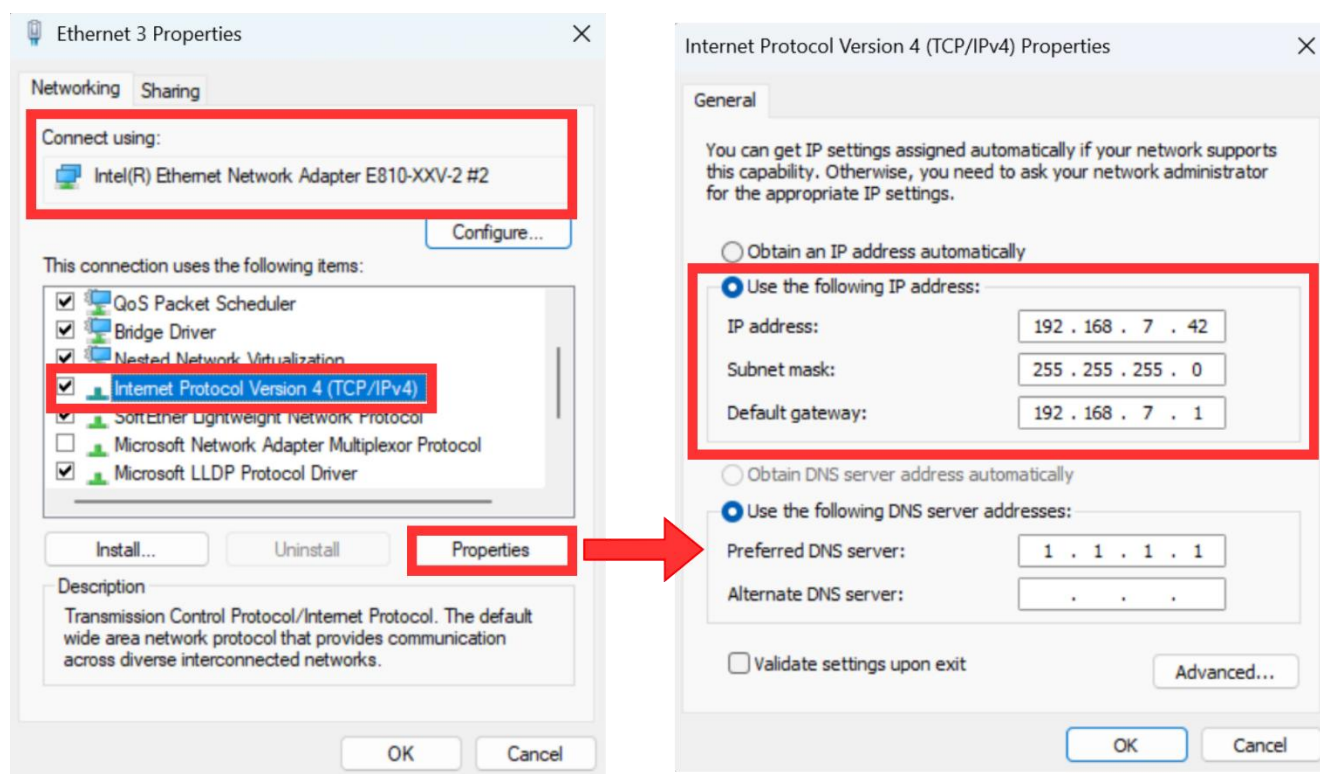

Figure 18 Setting IP address for PC
- 6) Open Local Area Connection Properties of 1 Gb connection, as shown in the left window of Figure 18.
- 8) Set IP address = 192.168.7.42, Subnet mask = 255.255.255.0 and Default gateway = 192.168.7.1 as shown in the right window of Figure 18